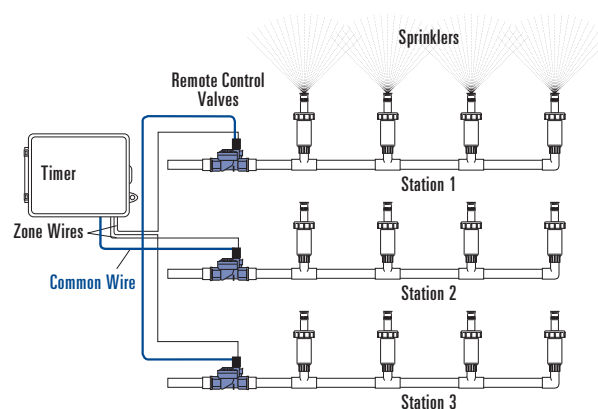

Figure 13: Connecting Sprinkler Wires to Valves
- Connect one wire from each valve (it doesn't matter which wire) to a single "Common" sprinkler wire (usually white) [See Figure 13]